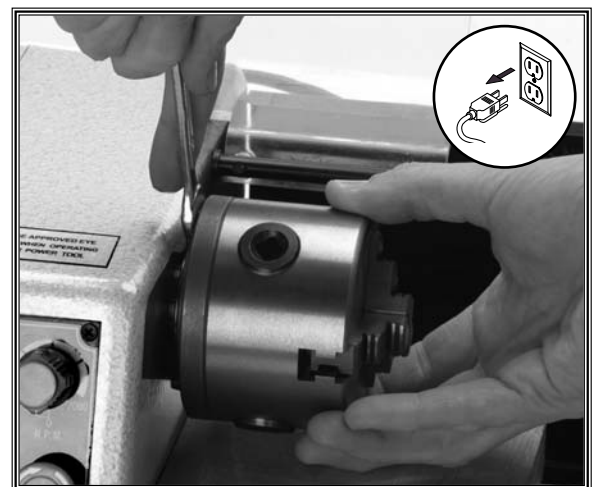

Figure 7. Tightening the chuck retaining hex nuts.
7. Using a 10mm wrench, tighten the hex nuts until snug (see **Figure 7**).